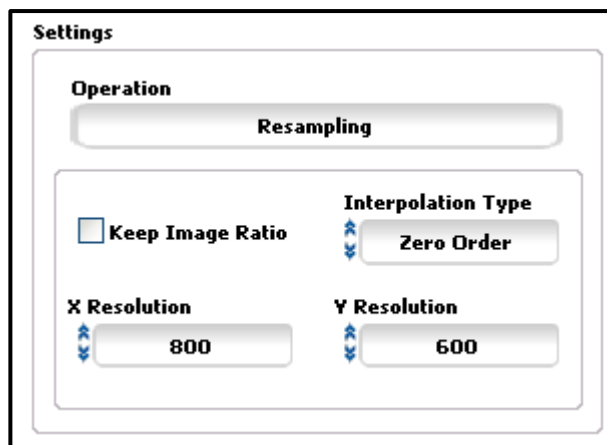

Figure 27. Resampling parameters.
5. Configure the parameters related to the type of operation chosen. Resampling configuration options are shown below [Figure 27].